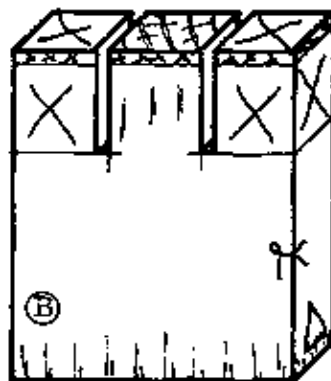
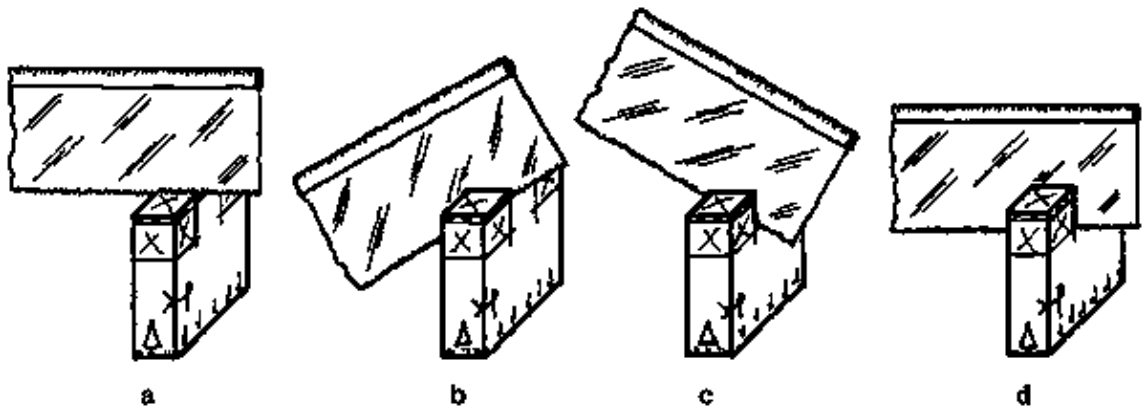

Fig. 8
Fig. 11
– Rip the sides of the tenon, sawing on the waste side of the line (Fig. 8). Cut in stages as shown in (Fig. 11, a, b, c, & d).